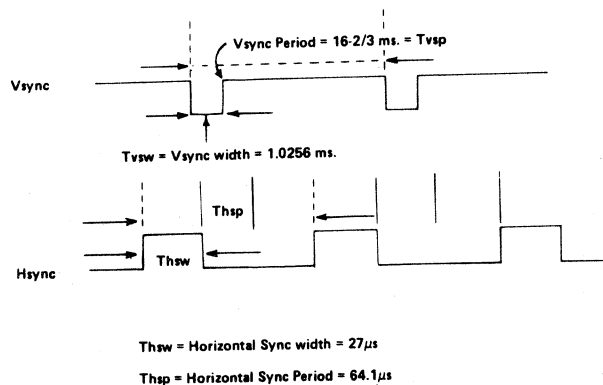

Figure 1. Sync Signals
7. Look at pins 6 and 9 on the CRT Monitor PC Board and compare the signals to Figure 1. If the respective signals are the same, go to 9. If not: